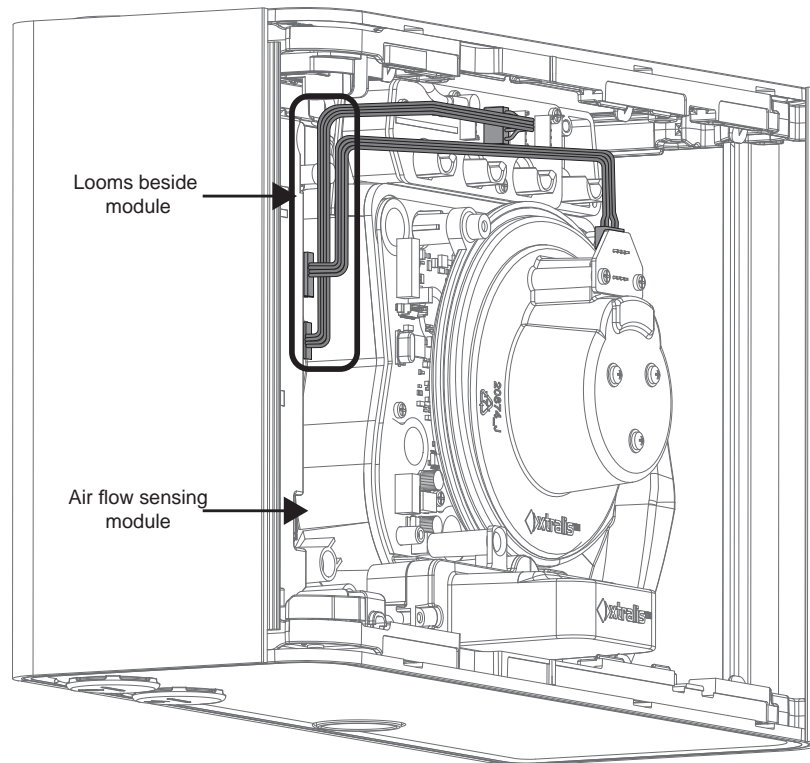

Figure 7-16: Position the gray loom
1. Position the two indicated looms as shown in Figure 7-16. Position the indicated loom sections beside the air flow sensing module, not on top of it. This will ensure that, when installing the chamber, the looms are not caught between the chamber and the air flow sensing module.